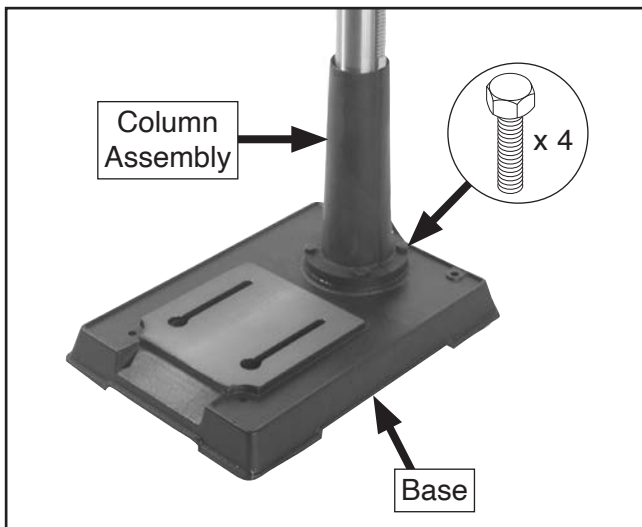

Figure 18. Column assembly attached to base (T33961 shown).
1. **T33959/T33960:** Attach column assembly to base with (4) M10-1.5 x 40 hex bolts (see **Figure 18**).
T33961: Attach column assembly to base with (4) M12-1.75 x 40 hex bolts (see **Figure 18**).